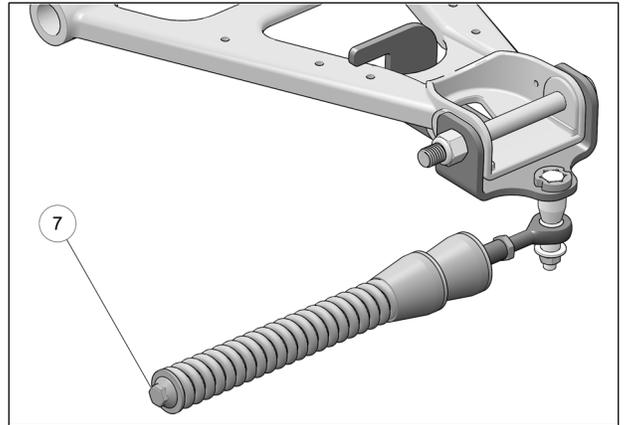

Fig. 13
12. Verify that spring assembly bolt (7) is tightened to the recommended torque specification: 75 N•m [55 lb•ft]. Refer to Fig. 13